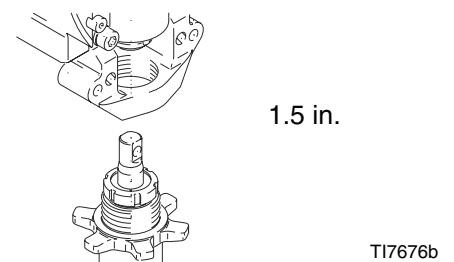

FIG. 18
1. FIG. 18. Pull piston rod out 1.5 in. Screw in pump until holes in bearing cross link and piston rod align.